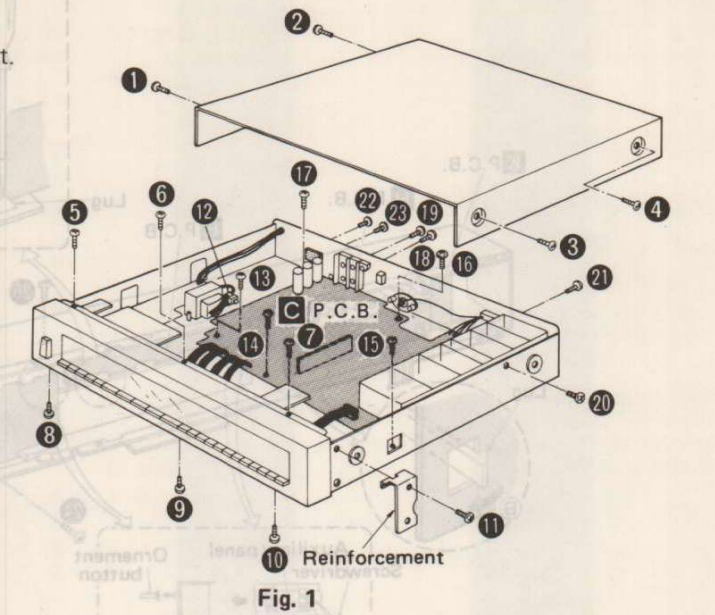

Fig. 1
Remove the 4 setscrews (1 ~ 4 in Fig. 1) of the cabinet.
2. Remove the 6 setscrews (5 ~ 10 in Fig. 1) of front panel and the setscrew (11 in Fig. 1) of reinforcement.
2. Remove the 5 setscrews (13 ~ 17 in Fig. 1) of the printed circuit board, 2 setscrews (18, 19 in Fig. 1) of the output terminal plate, and 2 setscrews (20, 21 in Fig. 1) of the shielding plate.
3. Remove the 2 setscrews (22, 23 in Fig. 1) of the allocation switch.
4. Cut off the lead clumper (12 in Fig. 1).